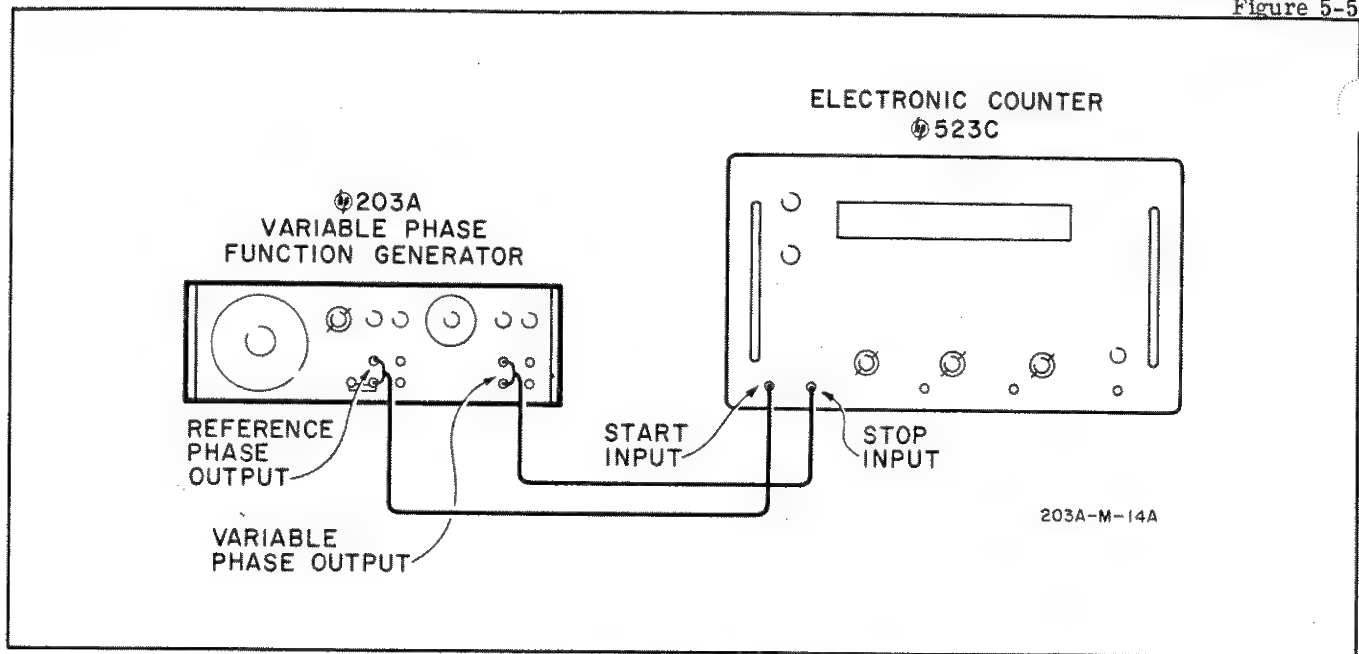

Figure 5-5. Phase Lag Check
- Connect Model 203A as shown in figure 5-5.